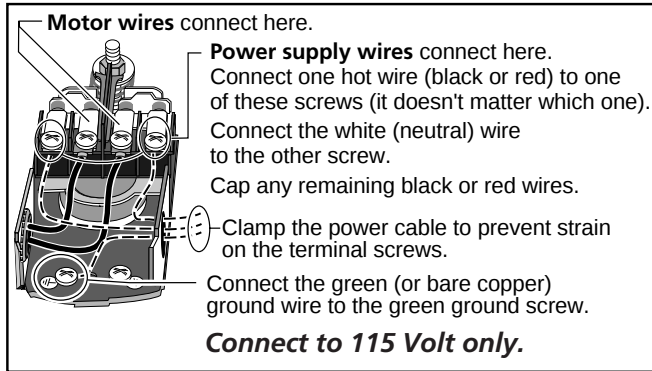

Figure 7 – Wiring Connections to 115 Volt Power Supply
Your Pressure Switch looks like one of those shown in Figure 7. Connect the power supply as shown for your type of switch.
1. Connect the ground wire first as shown in Figure 7.
4. Connect the power supply wires to the pressure switch as shown in Figure 7.